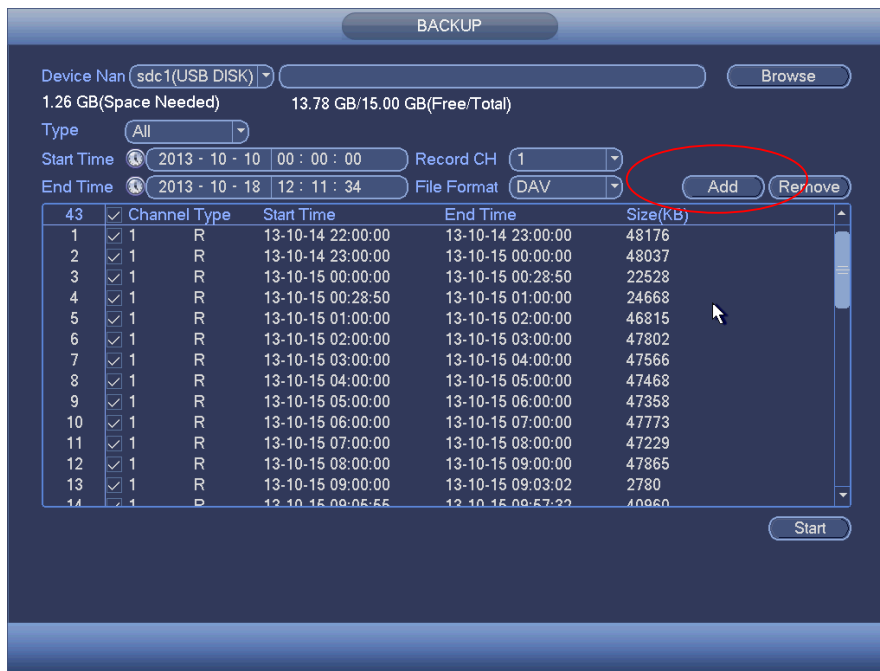

Figure 3-68
- Click add button, system begins search. All matched files are listed below. System automatically calculates the capacity needed and remained. See Figure 3-68.